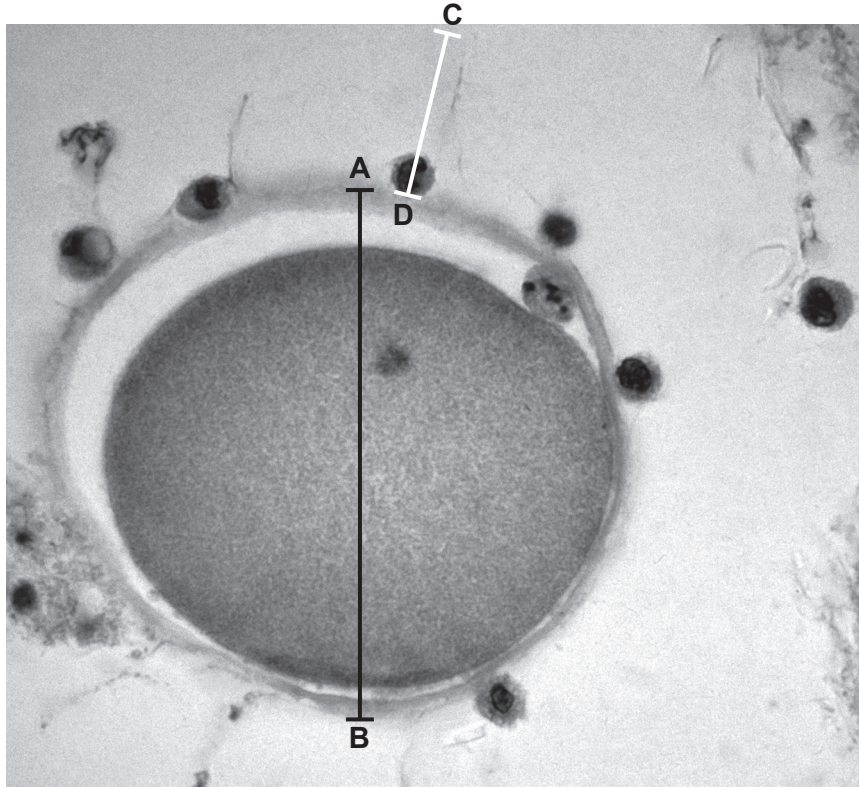

Fig. 2.1
Fig. 2.1 is a photomicrograph of a single ovum and many sperm cells during fertilisation.
- (i) Measure the lengths of lines **AB** and **CD** on Fig. 2.1. Include the unit.
Calculate the magnification of the ovum in Fig. 2.1 using the formula:
$$\text{magnification} = \frac{\text{length of line AB on Fig. 2.1}}{\text{actual diameter of ovum}}$$
$$\text{magnification} = \frac{\text{length of line CD on Fig. 2.1}}{\text{actual length of sperm cell}}$$